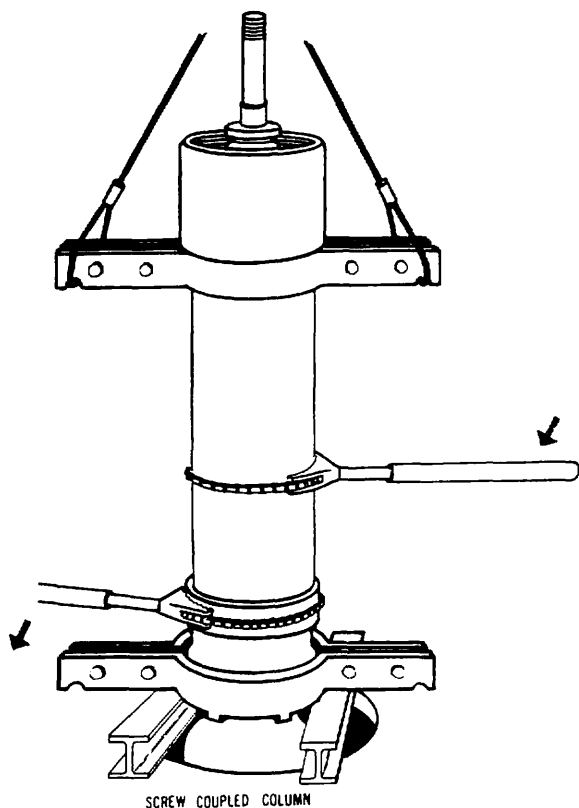

FIG. 11 - INSTALLATION OF COLUMN PIPE ON BOWL ASSEMBLY
6. a. If the bowl to column connection is threaded, apply Laynecote thread compound to the bowl (pipe coupling on subsequent sections) assembly threads and butt face and to the pipe threads. Lower the column (making certain that on combination type couplings with integral spiders the shaft feeds smoothly through the bearing in the spider) until the column engages the bowl adapter. Using chain tongs, tighten the pipe into the bowl while slowly lowering the derrick hoist. Tighten the pipe into the bowl so that it seats securely against the mating shoulder in the bowl. See Fig. 11.